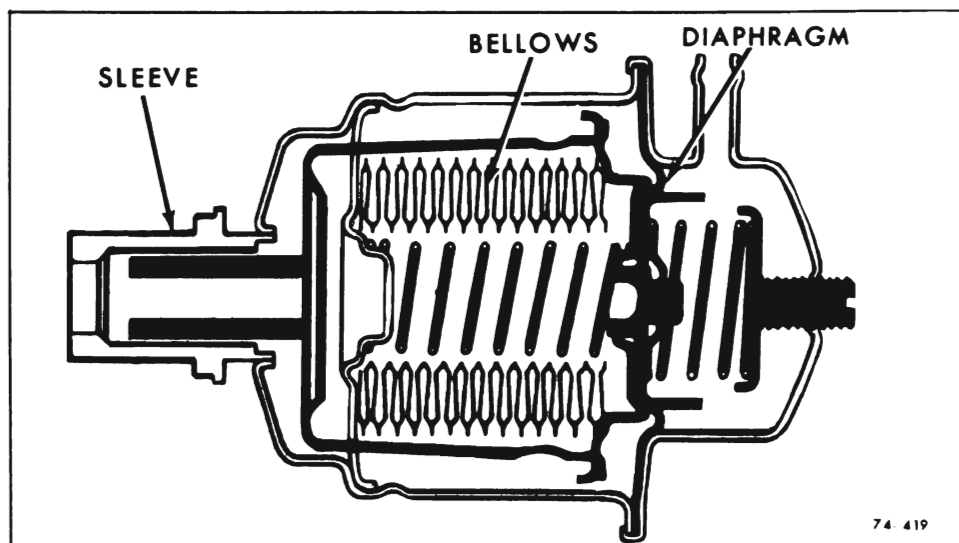

Figure 74-361 - Vacuum Modulator Assembly
The vacuum modulator, See Figure 74-361, has three areas to be checked. If any one of the three (3) areas fails to pass the prescribed checks, the modulator must be replaced.